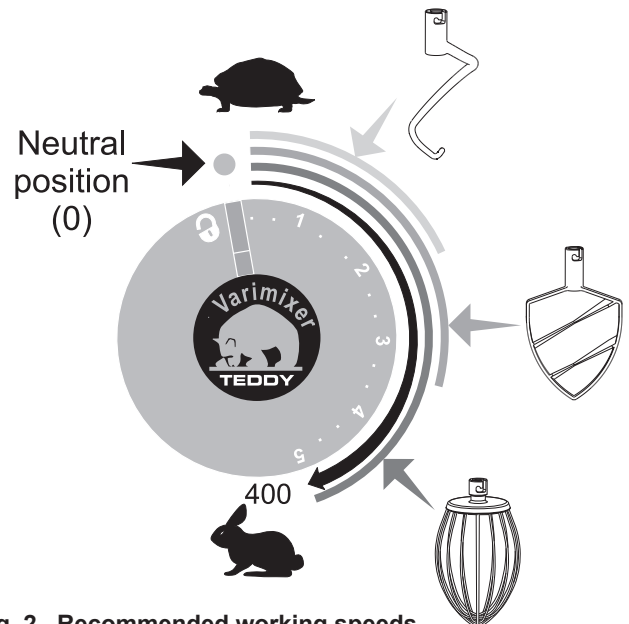

Fig. 2 Recommended working speeds
- G. Start the mixer by turning the rotary knobs away from the locking symbol and past 1. To avoid splashing and dust from flour, it is recommended to increase the speed gradually until the required speed is obtained (fig. 3C), (see fig. 2 for recommended working speeds).